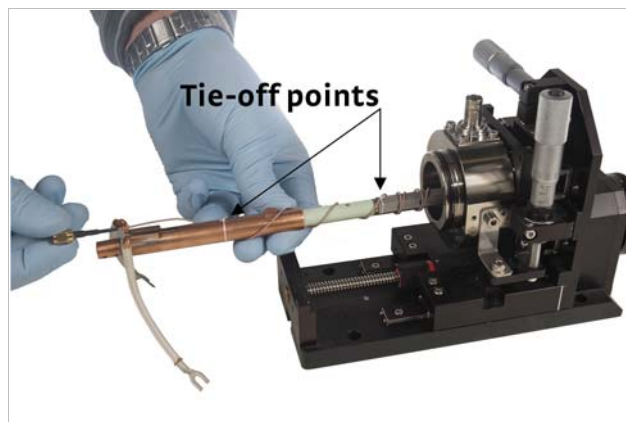

FIGURE 5-14 Tie-off points for the coaxial cable
6. Using unwaxed dental floss, tie the coaxial cable to the arm at the locations shown in FIGURE 5-14 (right) to keep it from unraveling and to provide heat sinking during operation.